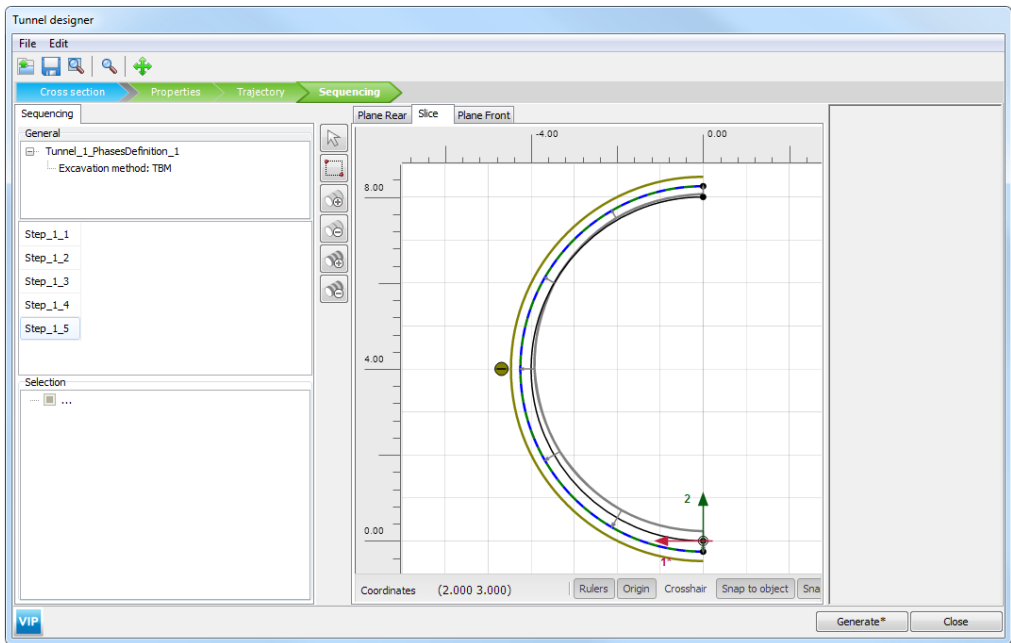

Figure 6.12 Slice tabsheet in the Tunnel designer from Step_1_3 to Step_1_5
-  **From Step_1_3 to Step_1_5, TBM with conicity:** click on the *Add Step* button thrice to add 3 new steps. These steps are necessary to define the remaining cone part of the TBM shield (Figure 6.12). Set the following values for the different steps: Step 1_3: $C_{ref} = 0.2\%$ (on the front surface of the third slice) Step 1_4: $C_{ref} = 0.3\%$ (on the front surface of the fourth slice) Step 1_5: $C_{ref} = 0.4\%$ (on the front surface of the fifth slice)